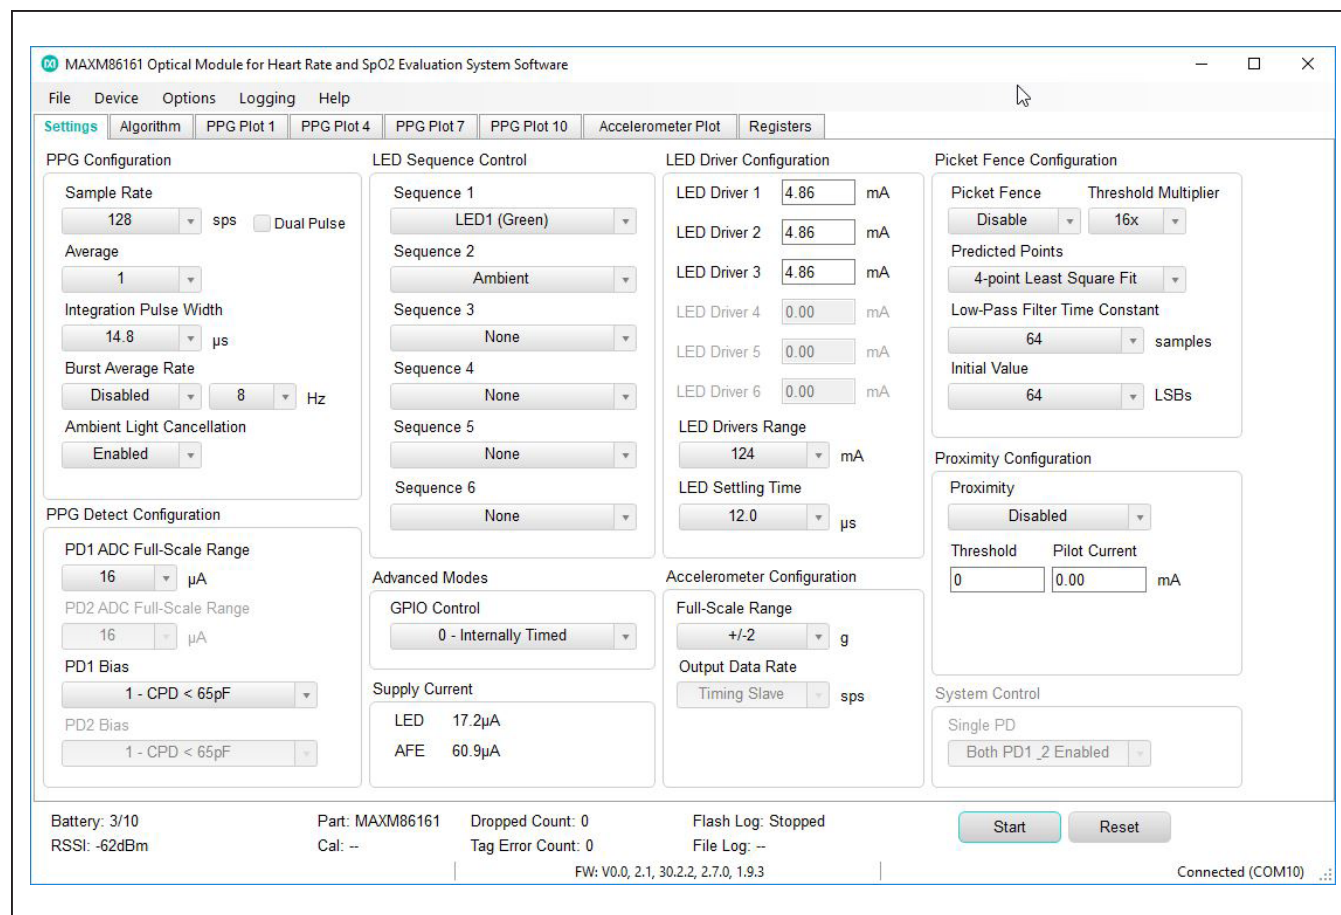

Figure 12. MAXM86161 EV System GUI (Default)
- 7) The GUI launches with default settings as shown in Figure 12. Note that during operation, hitting the “Reset” button restores the default settings.